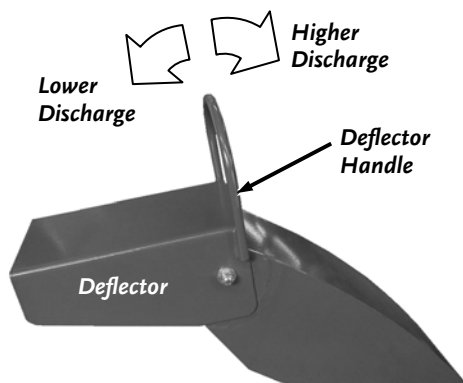

Figure 48
1. Grab the Deflector Handle and rotate the Deflector to the desired discharge position (**Figure 48**).